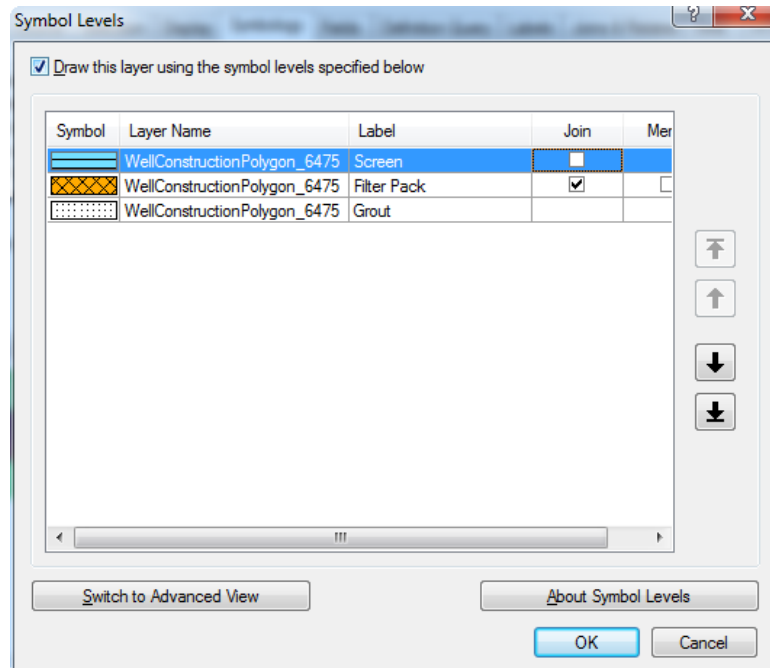

Figure 14 Enabling the Symbol Levels option on well construction polygons.
35. Enable the option *"Draw this layer using the symbol levels specified below"*, as shown in Figure 14.